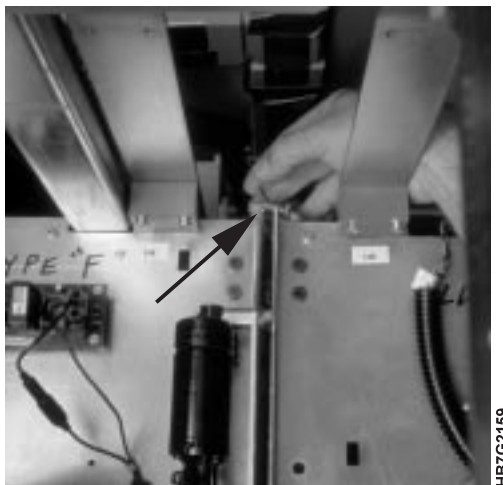

Figure 303. Top Latch Between X and Y Tower
- 3 Unlatch the top of the X and Y towers by pulling up on the latch located at the top center between the towers, as shown in Figure 303. Do this on each side of the towers.